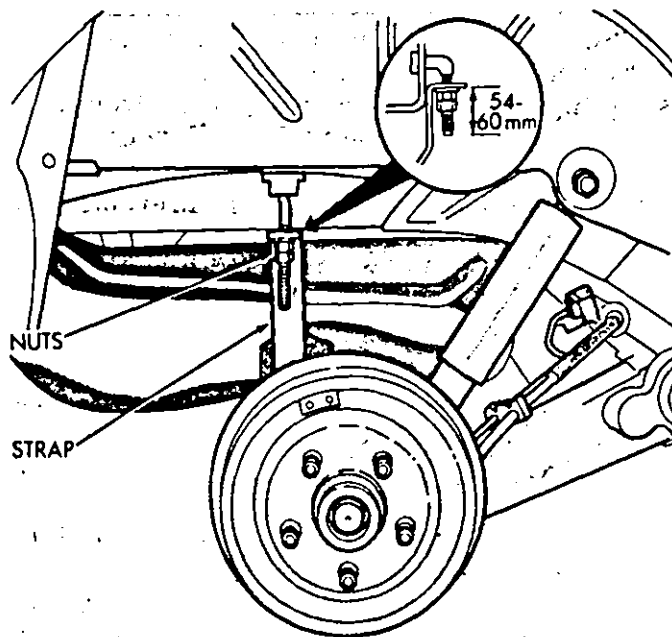
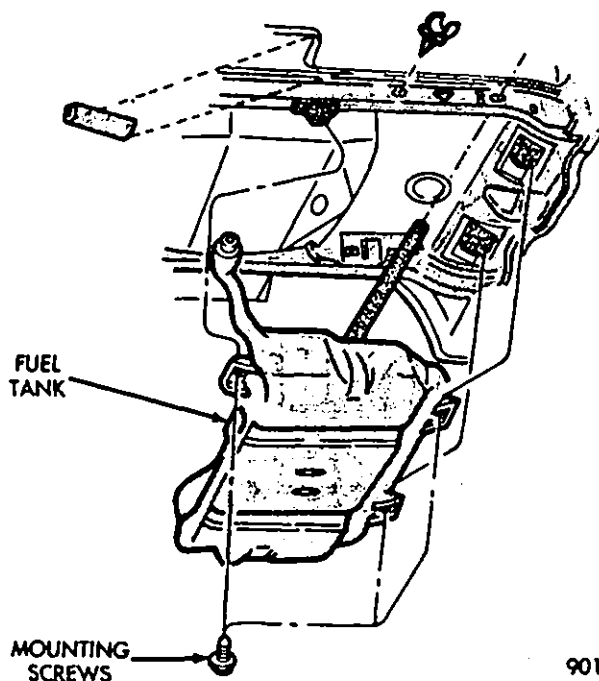
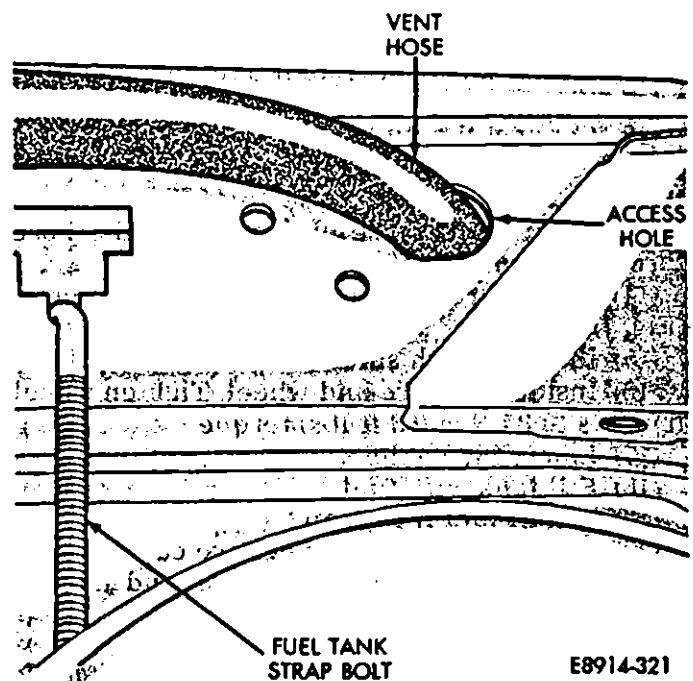

Fig. 10—Fuel Tank Strap
Fig. 12—Fuel Tank Removal/Installation
Fig. 13—Vent Hose Removal/Installation
(10) Loosen and remove both nuts securing fuel tank support strap (Fig. 10). Push the other end of the strap up and out the left side frame rail.
(11) Place a transmission jack under the fuel tank to support it while removing the tank.
(16) Remove fuel tank mounting bolts (Fig. 12). The fuel tank is now supported by the transmission jack only.
(17) Lower the fuel tank on the transmission jack 2 to 3 inches.
(18) Push fuel tank vent hose towards the fuel tank through access hole in frame (Fig. 13).
(1) Center fuel tank on transmission jack.
(2) Raise jack until the fuel tank is 8 to 10 inches below vehicle.
(3) Tip front of fuel tank up over rear axle and continue raising tank until it is 1 to 2 inches away from being in place.
(4) Route the fuel tank filler vent hose through access hole in the frame (Fig. 13).
(5) Continue raising tank into place.
(6) Install fuel tank mounting bolts. Tighten the bolts to 16 N·m (12 ft-lbs) torque.
(7) Remove transmission jack.
(8) Install fuel tank support strap. Tighten top nut until distance between the bottom of the strap bolt and the strap is 54-60 mm (2.125-2.362 in.). Refer to Figure 10.